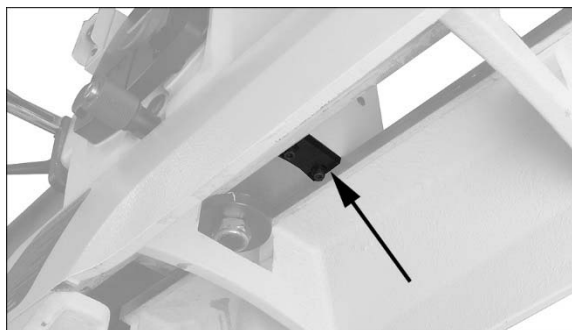

Figure 7-2: anti-rotation block
**IMPORTANT:** Remove anti-rotation block (Figure 7-2) with 4mm hex key before attempting to rotate headstock.